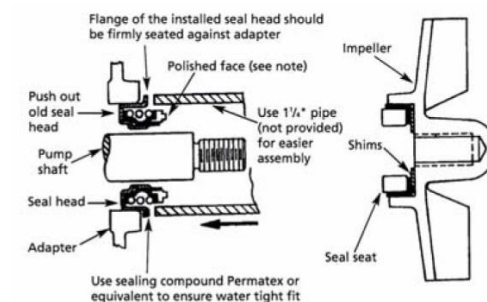

Figure 1 - Mechanical Seal Replacement
Refer to Figures 1 and 2
**NOTE:** To keep shaft from turning, remove shroud from engine and hold flywheel in place. 4381-96 impeller is screwed on to the right (CW). To unscrew, turn impeller to the left (CCW) when facing impeller.
10. Replace any impeller shims removed in disassembly (See Figure 1).
13. Install impeller back in place (CW), tightening until it is against shaft.